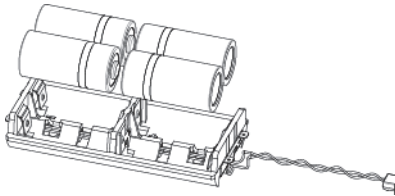

Figure 11
3. Insert the new battery while observing battery polarity (*see Figure 11*).